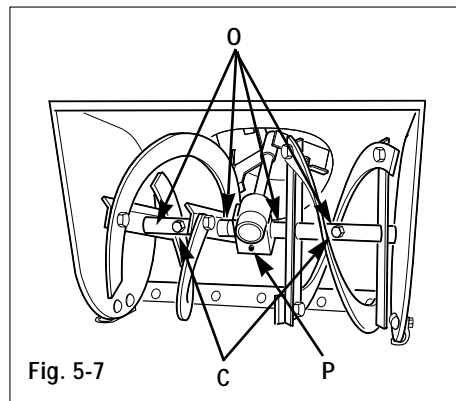

Fig. 5-7
8. Remove the two shear bolts (C, Fig. 5-7) from the auger shaft, then lubricate the four auger grease fittings (O, Fig. 5-7) using a grease gun. Rotate auger three or four times. Reinstall shear bolts, torque to 11 ft-lbs (15Nm).
- a. Place the unit on a smooth, level surface. Unscrew the plug (P, Fig. 5-7) from the front of gear case.
- c. Reinstall the plug (P).
Special shear bolts (C, Fig. 5-7) secure the augers to auger shaft and are designed to break (shear) if the auger jams. This prevents damage to other, more vital parts. Inspect the shear bolts before each use and replace them if they are worn or broken.